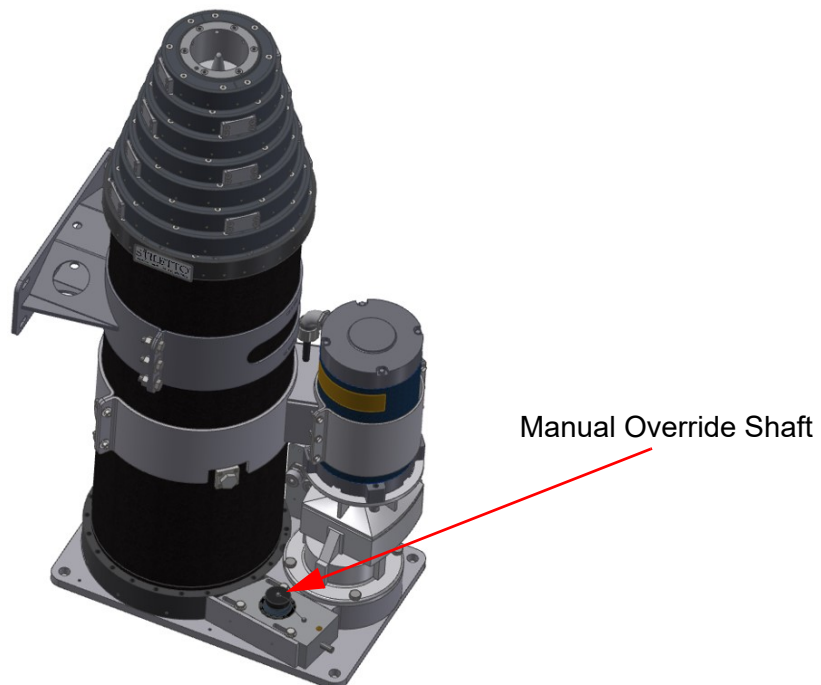

Figure 6-5 Manual Override
2. Locate the Manual Override Shaft (Figure 6-5).